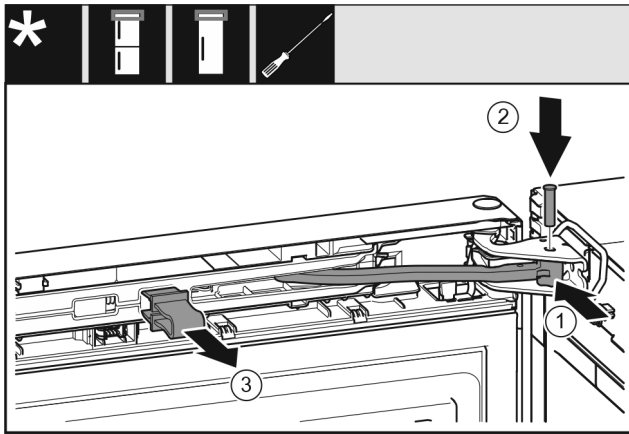

Fig. 21
- ▶ Turn the hinge in the bearing bracket. Fig. 21 (1)
- ▶ Insert the bolt in the bearing bracket and hinge. Make sure that the latching lug is sitting correctly in the groove. Fig. 21 (2)
- ▶ Remove the locking device. Fig. 21 (3)